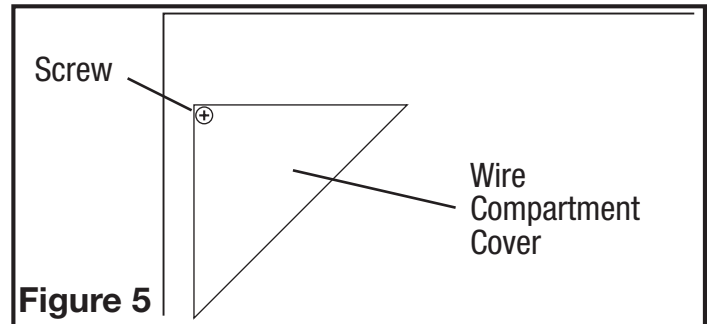

Figure 5
- 1a. External Wire Compartment: Remove the wire compartment cover screw and place cover in a secure place (**Figure 5**).